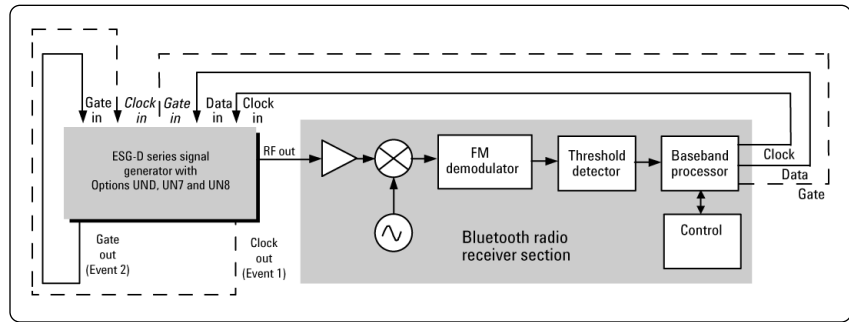
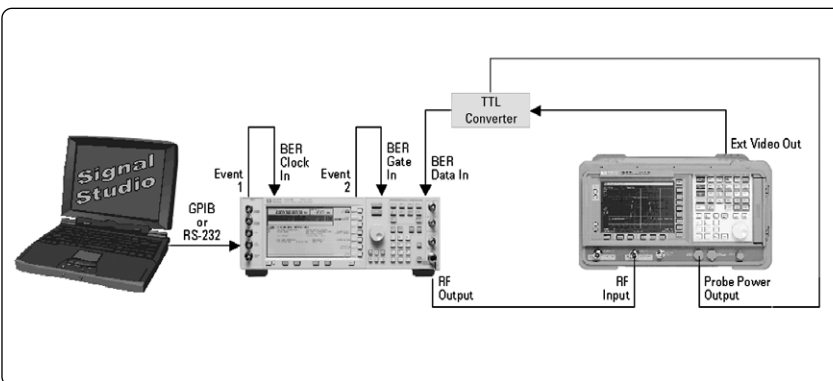

Figure 40. BER test setup for a *Bluetooth* device in "continuous receive" operating mode.
Figure 42. Example BER measurement setup using the ESA to demodulate the *Bluetooth* signal generated by the ESG.
An example BER measurement setup is illustrated in Figure 40. In this setup, the ESG is configured to provide a *Bluetooth* modulated RF signal using Bluetooth Signal Studio. The RF test signal consists of a sequence of *Bluetooth* modulated DH1 packets with continuous PN9 payload data.
This example illustrates the procedure for performing Clock/Gate Delay Calibration using Signal Studio. In this example, the measurement setup illustrated in Figure 42 is used. This is very similar to the test setup illustrated in Figure 40; however, for demonstration purposes, the Agilent ESA series spectrum analyzer (with the *Bluetooth* measurement personality) is used to demodulate the *Bluetooth* signal generated by the ESG instead of an actual *Bluetooth* receiver.
1. Connect the test setup as shown in Figure 42 and preset the ESG.